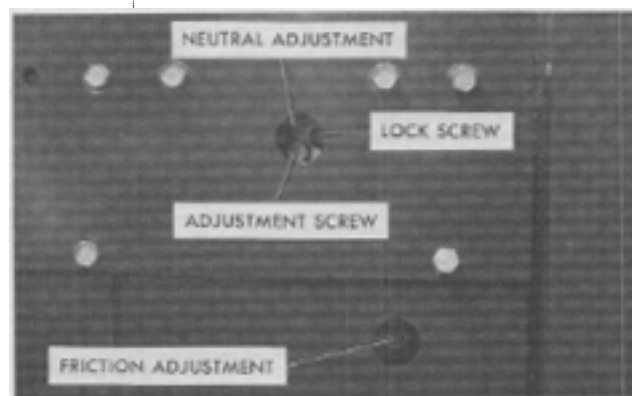

FIG. 6. 18 HP Automatic Adjustments
2. Loosen the lock screw holding the eccentric assembly (see Fig. 6).
The speed control lever is friction loaded to hold selected speed in either direction. If the lever does not remain where it is set during operation, the friction may be increased by tightening the adjusting nut through the access hole located in the right panel (see Fig. 6). The proper amount of friction is obtained